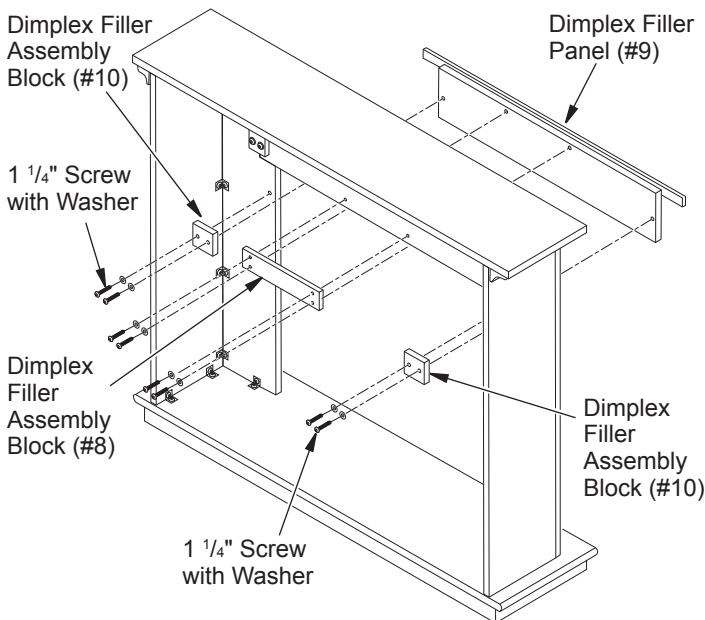

Figure 5 - Attaching Dimplex Filler Panel
1. Place Dimplex filler panel (#9) in position in front of mantel with trim strip to outside covering joint between filler panel and mantel (see Figure 5).